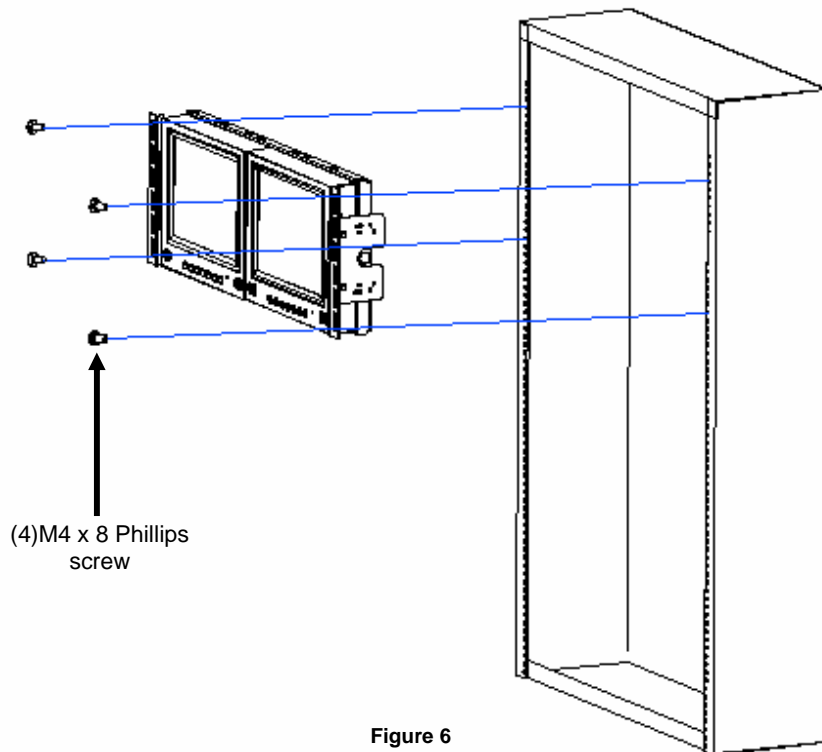

Figure 6
Secure the fully assembled rack mount to your cabinet using the four (4) M4 x 8 Phillips screw. (figure 6)